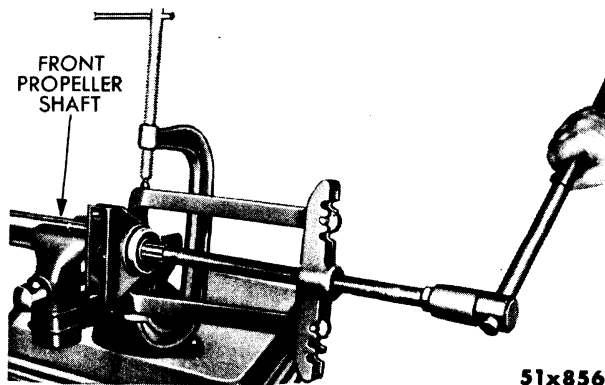

Fig. 16—Removing Center Bearing from Shaft
- (3) With the jaws of Tool C-459 over the housing, as shown in Figure 16 (be careful not to crimp slingers), force slingers and bearing off the shaft.
- (4) Remove bearing from housing with a suitable drift.